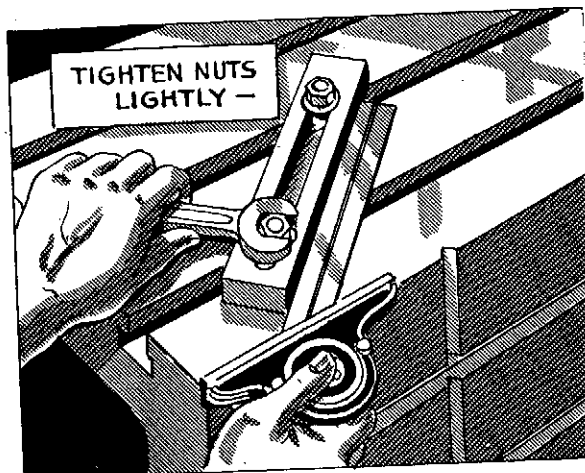

FIG.172
7. Press the base of the protractor against the edge of the table, and, with the blade extending over the top of the table, adjust the strip against and parallel with the blade of the protractor (Fig. 172).